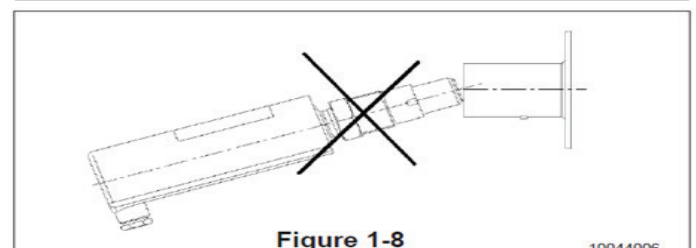

Figure 1-8
- Insert the transmitter **aligned with** the coupling (Fig. 1-8), so that the guide groove on the transmitter aligns with the stop pin on the coupling. The transmitter settles into position when the groove and pin are aligned, and will be prevented from rotating in the coupling.